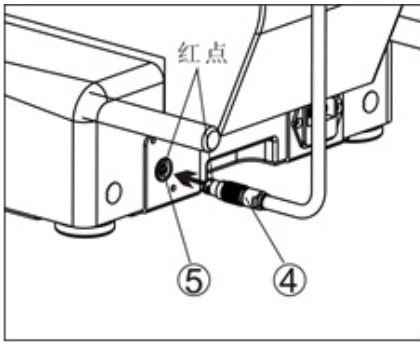

Fig. 11
4.2.9. Connecting the LED Lamp Housing Wire (Fig. 11)
- As shown in Fig.11, there are red dots in the aviation socket and plug. Before the plug is inserted into the socket, ensure that the red dots on each are aligned.